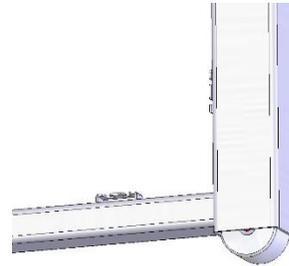

Figure 1 – SGMKS Mobility Kit
1. Begin by laying out all of the soccer goal components. Place the end frames far enough apart to fit the top crossbar between them with the net clips facing outwards. Place one channel at each connection. (Fig. 1).